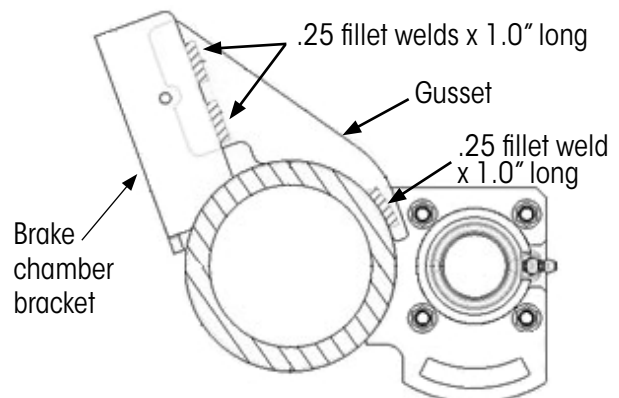

Figure 15: Gusset welding
5. Weld the gussets to the axle and BCB as shown in Figure 15.